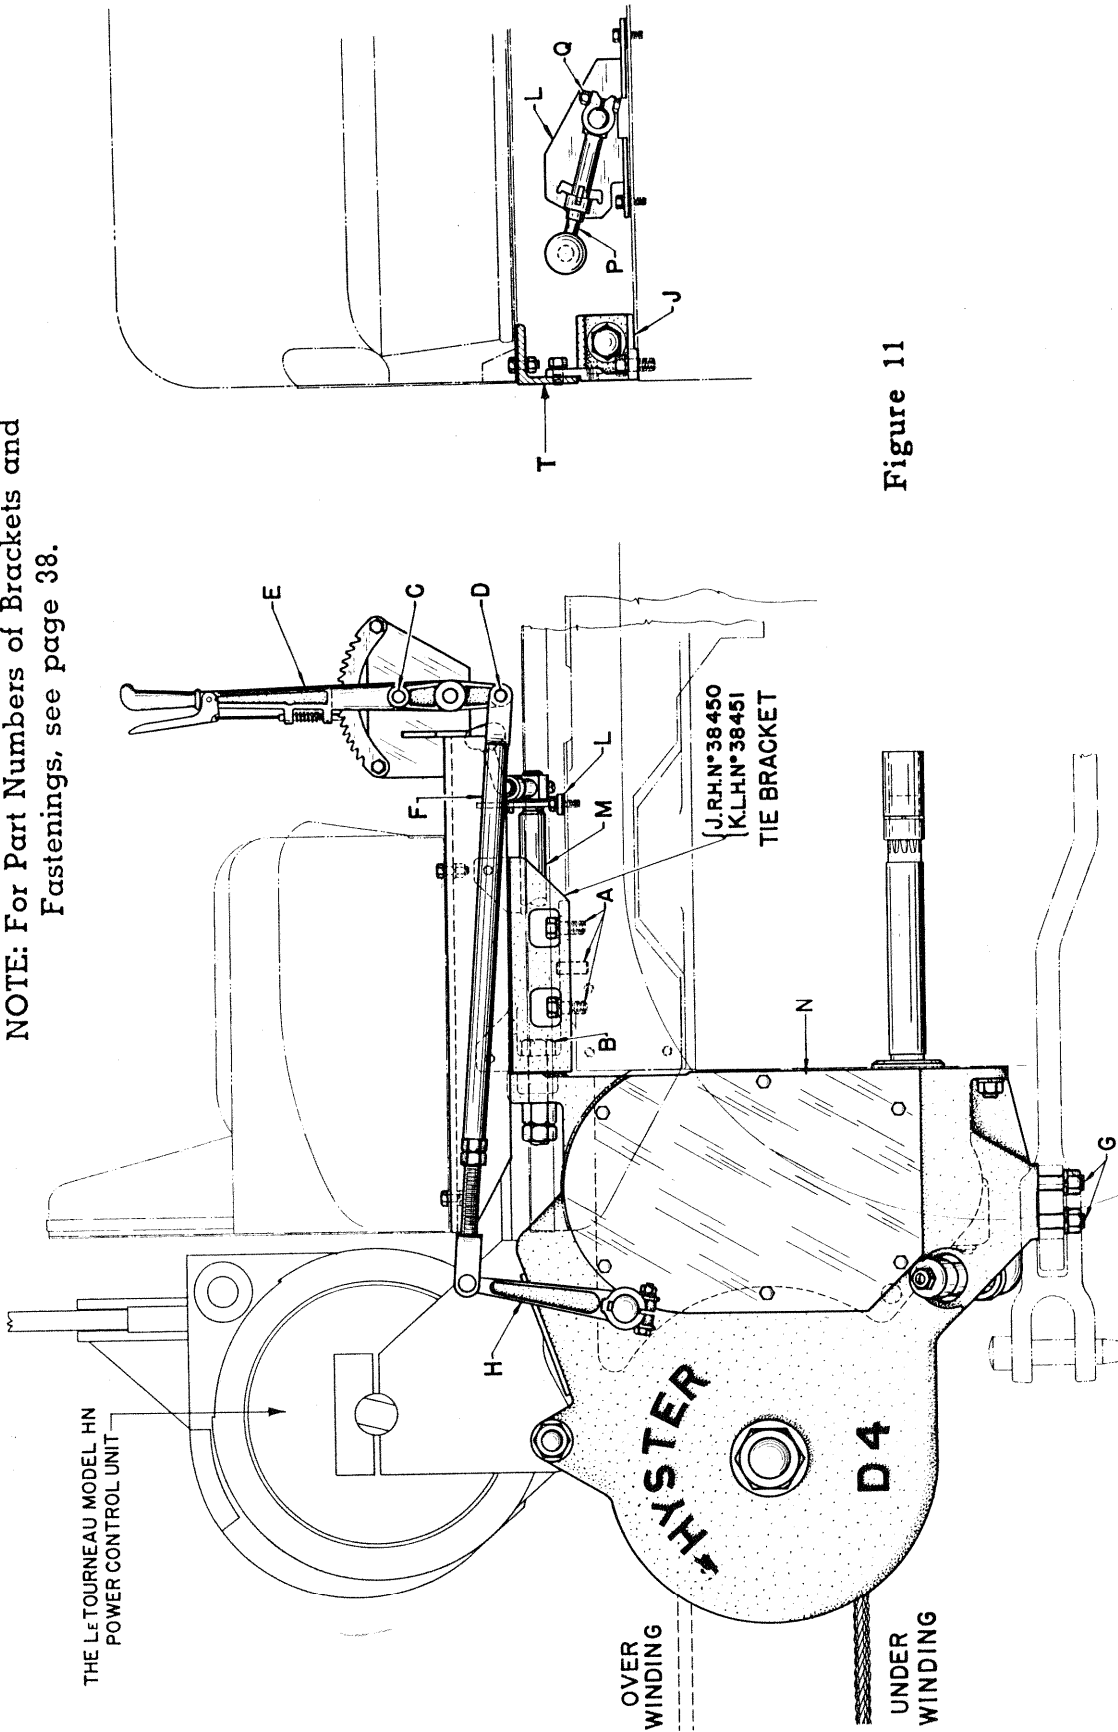

Figure 11
10. Before mounting brackets "J" and "K" (Figure 11, page 18) on top of tractor transmission cover, insert capscrews in end of brackets at point "B." Fasten brackets, with one dowel pin and two capscrews with lockwashers, securely to transmission cover at point "A."
11. Fasten the winch securely to brackets with capscrews (15530) (installed under instruction 10 above) and nuts as shown at "B," Figure 11. Fasten tractor drawbar to winch as shown at "G," Figure 11, using the studs and nuts which were removed from tractor drawbar brackets. (See instruction 4, page 14.)
12. Install horizontal adjustable brake link "F" (Figure 11) as follows: connect link "F" to handlever "E" with $\frac{5}{8}$ " rod end pin; connect at "D" for UNDERWINDING DRUM; connect at "C" for OVERWINDING DRUM. Place the handlever "E" in the extreme forward or released position. See that lever "H" is in its central or released position and adjust brake link "F" to connect between lever "H" and handlever "E," which should still be in the released position. This procedure will give maximum brake band clearance.
13. Slide shifter bracket "L" (Figure 11) over end of shifter shaft "M," and fasten securely with capscrews provided, to transmission cover. Shaft "M" should turn easy and not bind in bracket hole.
3. Disconnect brake link "F" in Figure 11 (page 18).
4. Remove gear shift lever shown at "P" in Figure 11.
6. Unfasten drawbar plate from bottom of winch side frames shown at "G" in Figure 11.
7. Remove two capscrews connecting winch frames to tie bracket lugs at "B," Figure 11.